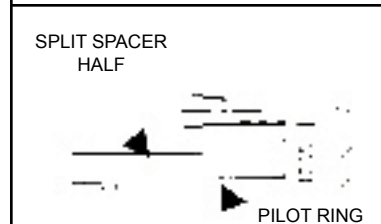

FIGURE 3
- 6) Install the split spacer using the mounting fasteners. Hold the spacer halves firmly against the adapter pilot ring and snug all the mounting fasteners. See figure 3. Fasteners may be lubricated with light machine oil or a Moly-based anti-seize lubricant. Do not add lock washers. The threaded holes in the adapters are tapped with a self locking thread form.